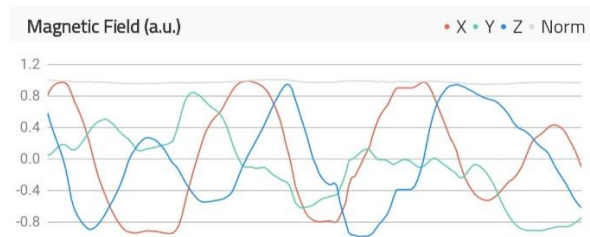

Figure 5: Mag Norm is constant while moving
- Areas for which the magnetic norm = 1 and the variation remains within ± 0.2 are **magnetic homogeneous** and is optimal for carrying out the measurements (see Figure 5). However, if the measurement begins with a magnetic norm of around 2 or 3, and remains within ± 0.2 of this value, the orientation should remain accurate.